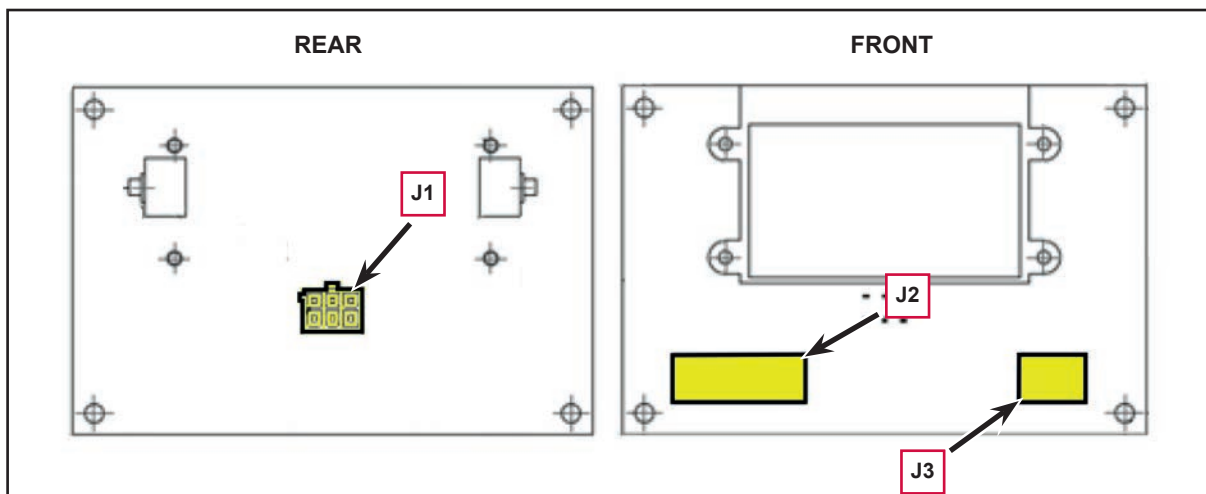

Figure 31
**(Figure 31) J1: MOLEX MINIFIT type, 6-ways vertical**
**(Figure 31) J2: FCI DUFLEX (2.54 pitch) 9-way, male pins**
**(Figure 31) J3: FCI DUFLEX (2.54 pitch) 6-way, male pins**